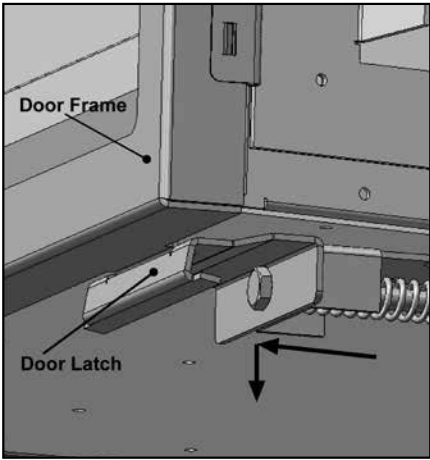

Figure 48: Door Latch Locations.
- 3) Pull the Door Frame at the bottom forward about 2" (5cm), then lift the Door Frame upwards to clear the Upper Door Hooks. Refer to Figures 48 & 49.